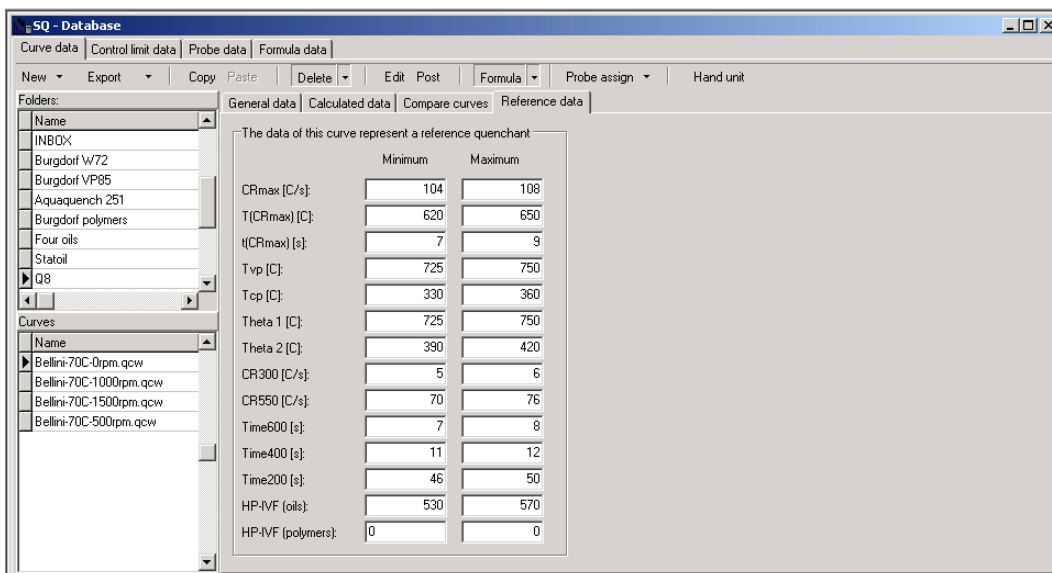

Fig. 3.5 Data that can be entered for a reference medium related to each quenchant.
- **Reference data**, which are intended for reference media, such as Swerea IVF's reference oil or other references the user may wish to employ. See Figure 3.5.